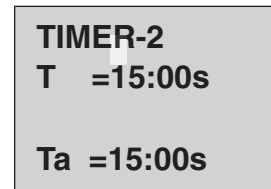

Fig. 7
6. Press arrow up/down keys ▲ or ▼ to select the next parameter to change (Timer -2). Repeat steps 4 and 5 to change the Timer-2 parameters. See figure 7.